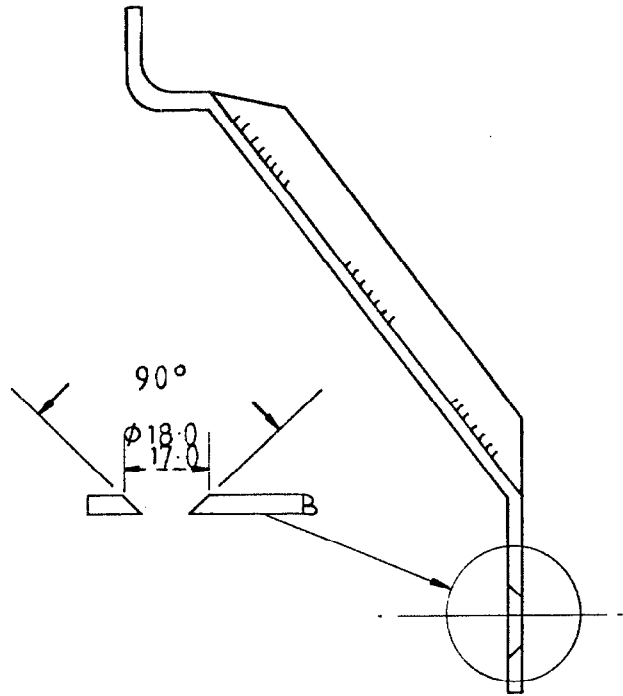

FIG 2 - MODIFIED GUARD
- b. Countersunk winch guard mounting holes to dimensions shown at Fig.2.